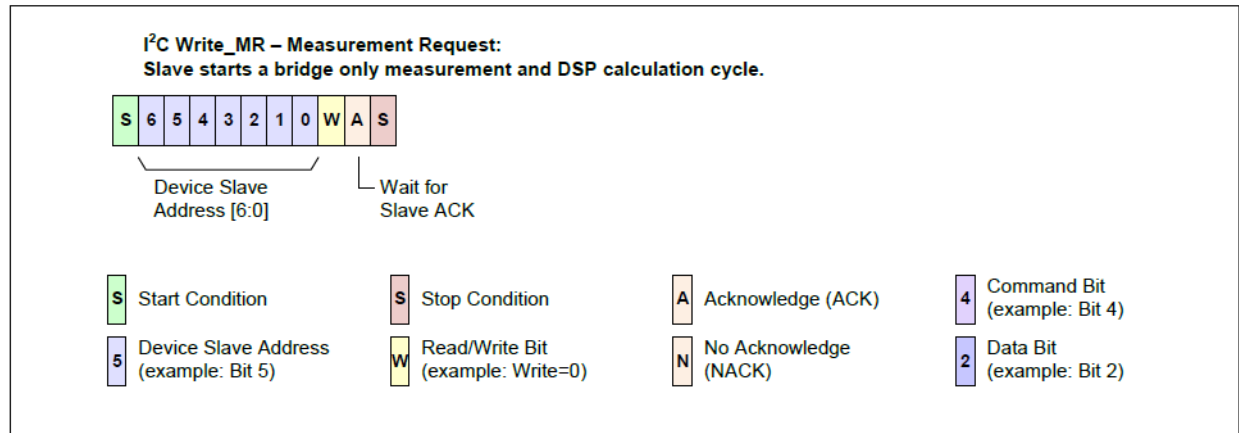

Figure 3-6: Write Measurement Request Bitmap
Write_MR is a special I²C write operation, which only includes the 7-bit slave address and the WRITE bit (0). This command can only be sent in Sleep Mode (see section 3.1.2). It wakes up the part and starts a measurement cycle for the bridge values **only** (no special measurement) and a DSP calculation based on former AZ and Temperature values. After finishing the calculation with valid results written to the digital register, the ZSC31014 powers down again and a Read_DF (see section 3.1.3) is required to read the valid values. See Figure 3-6 for an illustration of Write_MR. The I²C Write_MR function can also be accomplished using the I²C WRITE command with “don’t care” data in Sleep Mode.